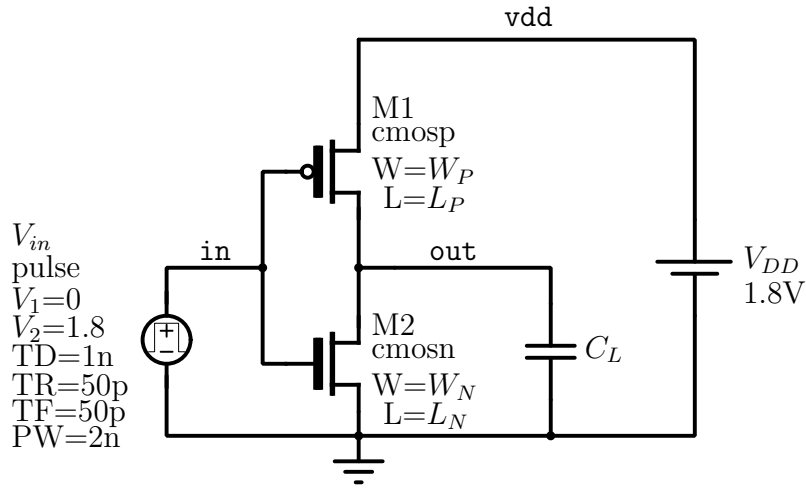

Figure 3.1. Electrical schematic for obtaining transient response of a CMOS inverter.
- Write the netlist of the circuit given in Figure 3.1 to obtain the transient response of a CMOS inverter.